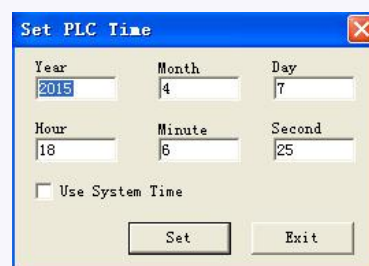

Fig. 7.10.12 Modify Time Interface
c. Click option "Tools->transfer->Set xLogic time" with left button of the mouse, or click "🕒" under toolbar, dialog box appears shown as Fig. 7.10.12.